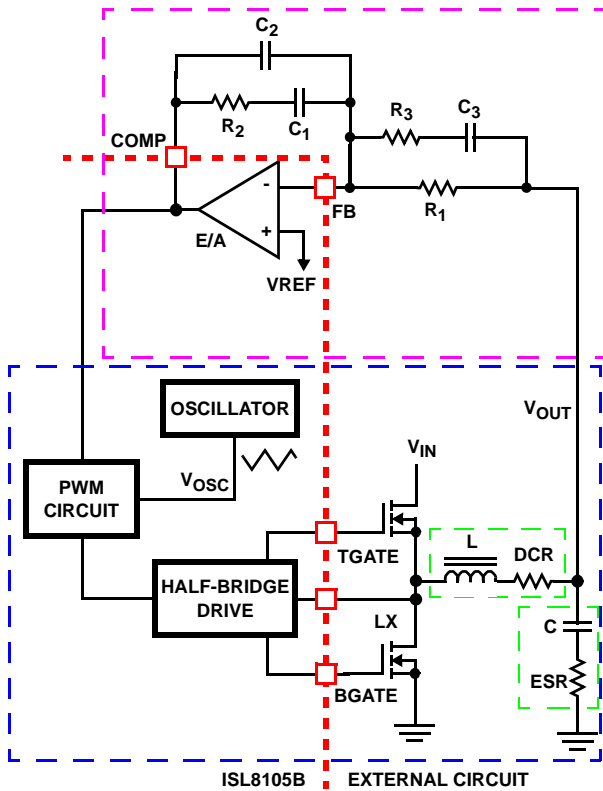

FIGURE 9. VOLTAGE-MODE BUCK CONVERTER COMPENSATION DESIGN
This section highlights the design considerations for a voltage-mode controller requiring external compensation. To address a broad range of applications, a type-3 feedback network is recommended (see Figure 9).
Figure 9 highlights the voltage-mode control loop for a synchronous-rectified buck converter, applicable to the ISL8105B circuit. The output voltage (V_{OUT}) is regulated to the reference voltage, V_{REF} , level. The error amplifier output (COMP pin voltage) is compared with the oscillator (OSC) triangle wave to provide a pulse-width modulated wave with an amplitude of V_{IN} at the LX node. The PWM wave is smoothed by the output filter (L and C). The output filter capacitor bank's equivalent series resistance is represented by the series resistor ESR.
The compensation network consists of the error amplifier (internal to the ISL8105B) and the external R_1 to R_3 , C_1 to C_3 components. The goal of the compensation network is to provide a closed loop transfer function with high 0dB crossing frequency (F_0 ; typically 0.1 to 0.3 of F_{SW}) and adequate phase margin (better than $+45^\circ$). Phase margin is the difference between the closed loop phase at F_{0dB} and $+180^\circ$. The equations that follow relate the compensation network's poles, zeros and gain to the components (R_1 , R_2 , R_3 , C_1 , C_2 , and C_3) in Figure 9. Use the following guidelines for locating the poles and zeros of the compensation network:
1. Select a value for R_1 (1kΩ to 10kΩ, typically). Calculate value for R_2 for desired converter bandwidth (F_0). If setting the output voltage to be equal to the reference set voltage as shown in Figure 9, the design procedure can be followed as presented.